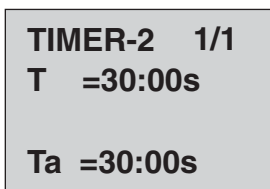

Fig. 7
7. Press **ESC** and use the arrow up/down keys **▲** or **▼** to select the next parameter to change (Timer-2). Repeat steps 4 and 5 to change the Timer-2 parameters. (See figure 7)